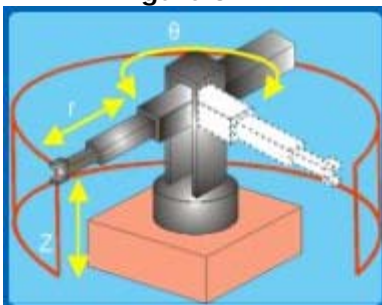

Figure 3.2.2
- Cylindrical main body. PPR (See figure 3.2.2). Such motions are found typically in drilling machines. A similar main body is used in robots to access points in a cylindrical volume. (Essentially R- q motion in a plane – which in turn translates along the Z axis.)